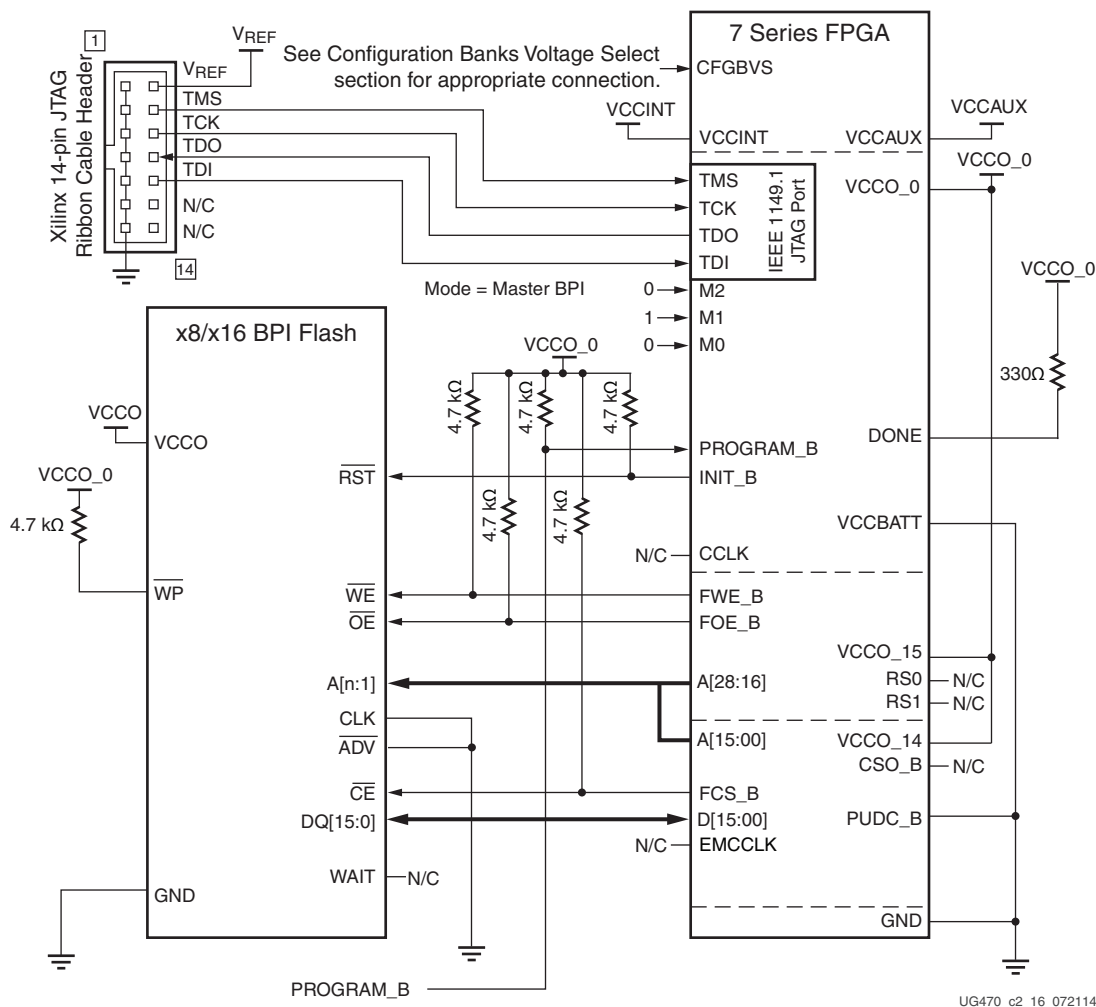

Figure 2-16: 7 Series FPGA Master BPI Configuration Interface - Asynchronous Read Example
By default, 7 series FPGAs use the asynchronous mode of the BPI flash to read bitstream data as shown in Figure 2-16, page 57. The FPGA drives the address bus from a given start address, and the BPI flash sends back the bitstream data. The default start address is address 0. The start address can be explicitly set in a MultiBoot reconfiguration procedure as outlined in Chapter 7, Reconfiguration and MultiBoot. In asynchronous read mode, supported bus widths of x8 and x16 are auto-detected as described in Bus Width Auto Detection, page 76.
Notes relevant to Figure 2-16:
4. Figure 2-16 shows the x16 BPI interface. For x8 BPI interfaces, only D[07:00] are used. See Bus Width Auto Detection, page 76.
7. The RS[1:0] pins are not connected as shown in Figure 2-16. These output pins are optional and can be used for MultiBoot configuration. See Chapter 7, Reconfiguration and MultiBoot.
11. The FPGA mode (M[2:0]) pins are shown set to Master BPI mode (010). The implementation of a board-level option that enables the user to change the FPGA mode pins to JTAG mode (101) is recommended to enable JTAG-based debug capability for the FPGA during design. This is not required, but the JTAG mode setting ensures that there is no interference from the Master BPI configuration during debug.